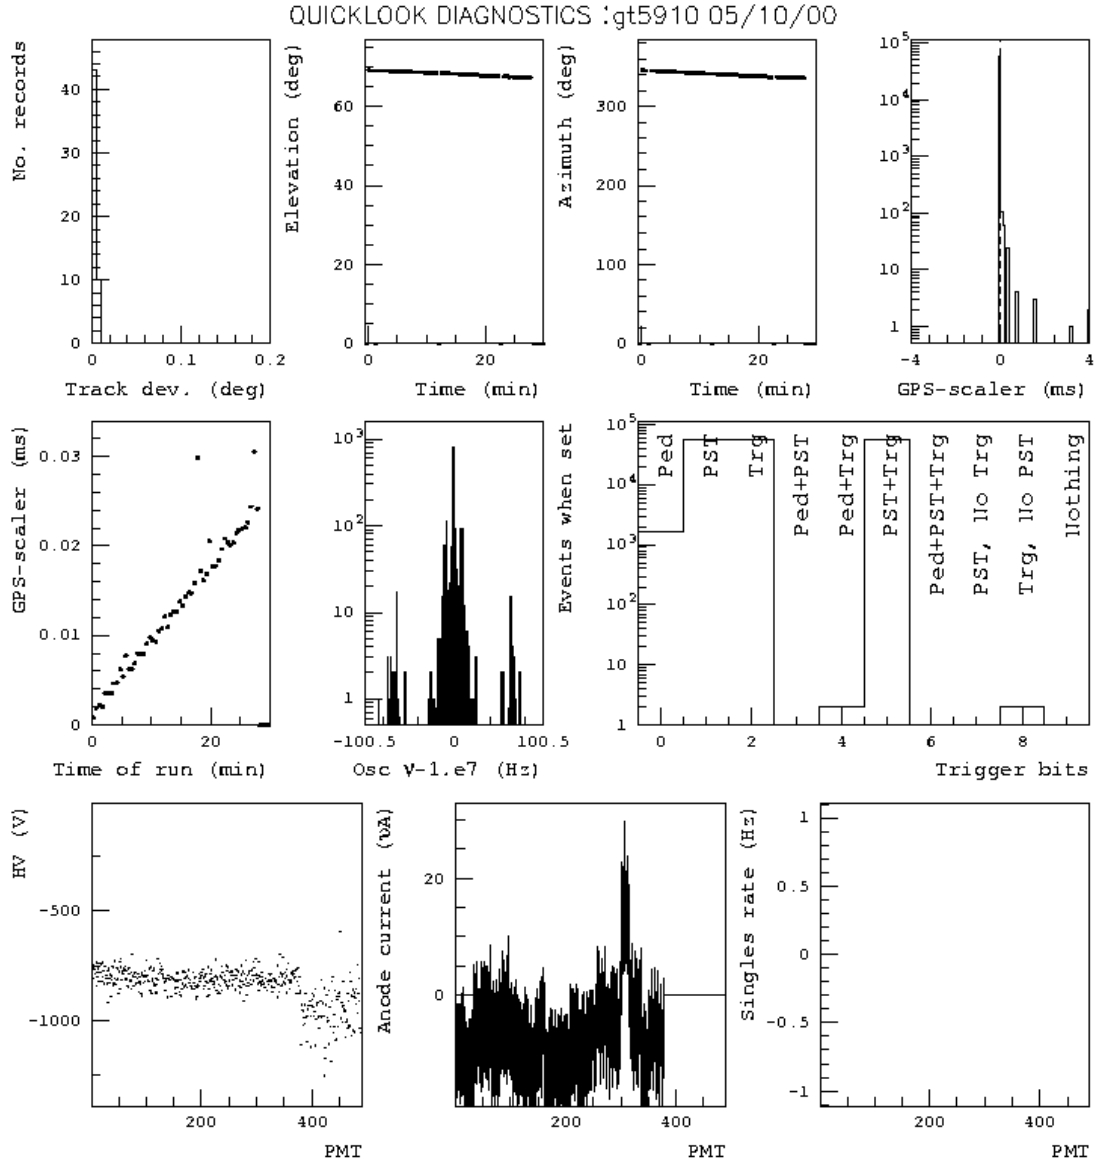

Figure 3.3: gt5910\_dg.ps – an example of the output postscript file from diagnostic.kumac.
- The right plot in the fourth row shows the length distribution for all events (solid histogram) and those passing all cuts but length (dashed curve) after multiplication by the listed factor (49). The spikes in the solid histogram indicate one and two pixel events.
- The left plot in the fifth row shows the width distribution for all events (solid histogram) and those passing all cuts but width (dashed curve) after multiplication by the listed factor (1). A spike at 0 width is from one and two pixel events (which are probably noise triggers or cosmic rays passing through the camera) and the number listed in the plot lists what fraction of the events are contained in that bin (0.000).
- The middle plot in the fifth row shows the distance distribution for all events (solid histogram) and those passing all cuts but distance (dashed curve) after multiplication by the listed factor (91).
- The right plot in the fifth row shows the size distribution for all events (solid histogram) and those passing all cuts but size (dashed curve) after multiplication by the listed factor (4).
- The middle plot in the sixth row shows the distribution of the neighbor value for all events (solid histogram) and those events passing all other cuts (dashed histogram) after being multiplied by the factor shown (39). A value of 1 indicates that there are only isolated pixels in the image. A value of 2 indicates that only two PMTs in the image are adjacent. A value of 3 indicates that three or more PMTs in the image are adjacent. Only events with 3 or more PMTs in the image are analyzeable so we define the fraction of events with neighbor values of 1 or 2 as the noise fraction for the run (0.173).
- The right plot in the sixth row shows the asymmetry distribution for all events (solid histogram) and those events passing all other cuts (dashed histogram) after being multiplied by the listed factor (28).
**gtnnnn\_dg.ps** This is the second plot you will see in the quicklook. It is created with the kumac file `diagnostic.kumac` using the histogram file `gtnnnn_d.hbook` created by `fz2red`. An example of the plot is shown in figure 3.3 below. This is a new plot this season (2000/01) so we will learn more about what is useful with these as we go along.